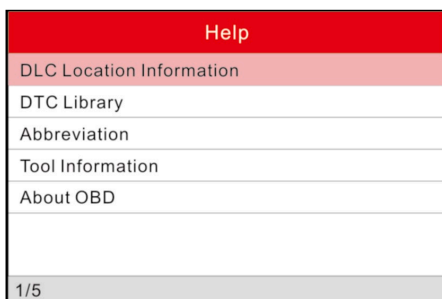

Figure 5
7. Select Tool Information, press OK. (Figure 5)